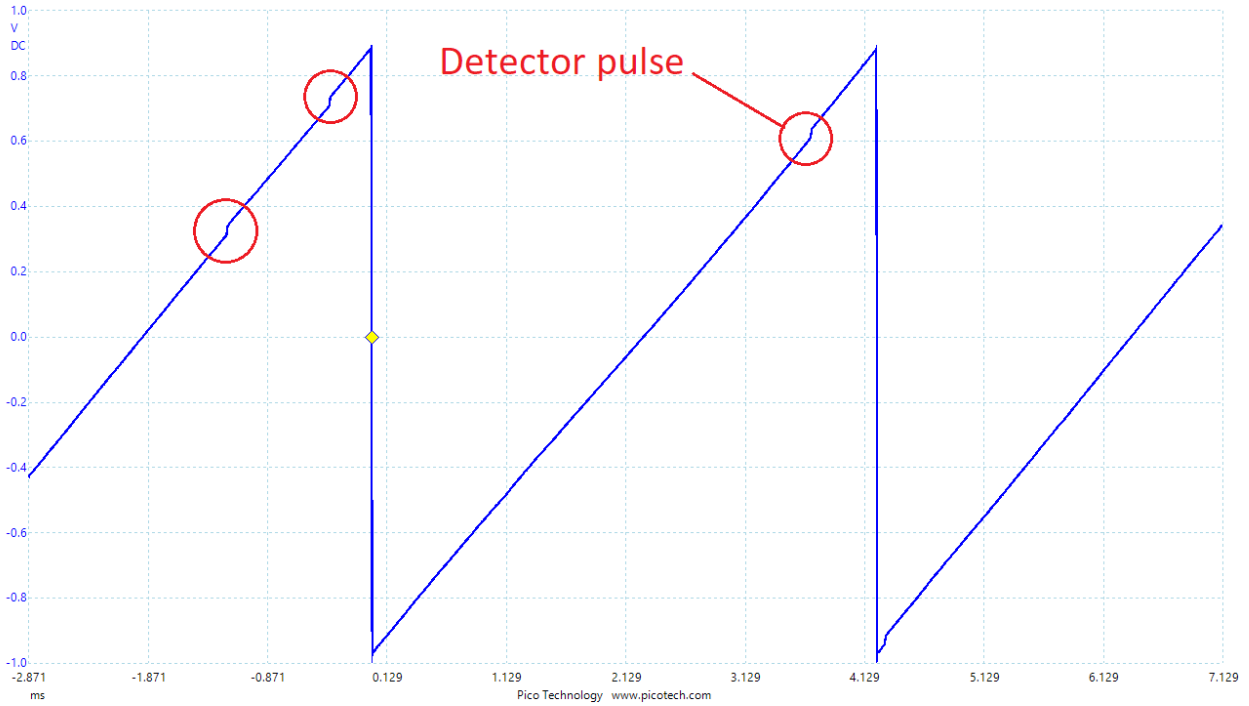

Fig. 6. Preamplifier ramp of an SDD with step-like pulses corresponding to x-rays.
- **Preamplifier ramps** from SDD, SiPIN, or Si(Li) detectors - Fig. 6.